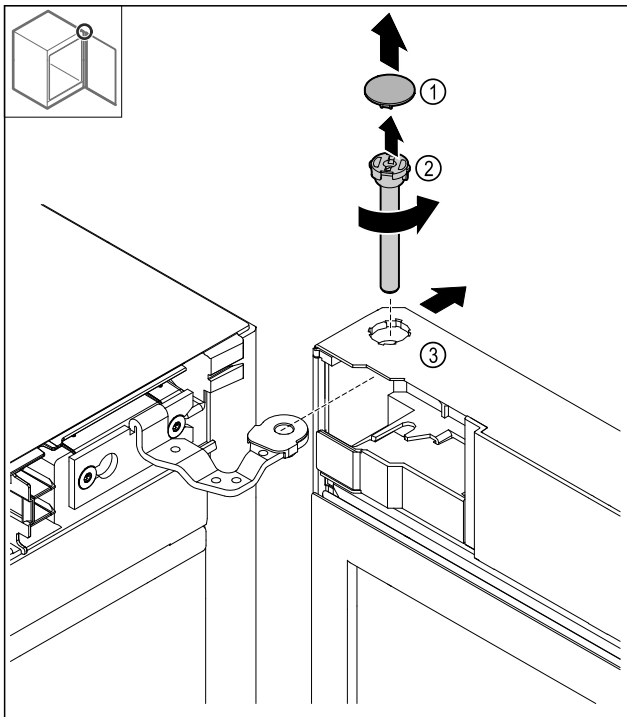

Fig. 18
- ▶ Removing the cover Fig. 18 (1).
- ▶ Loosen the bolt Fig. 18 (2) anti-clockwise and pull it out.
- ▶ Tilt the door Fig. 18 (3) slightly.